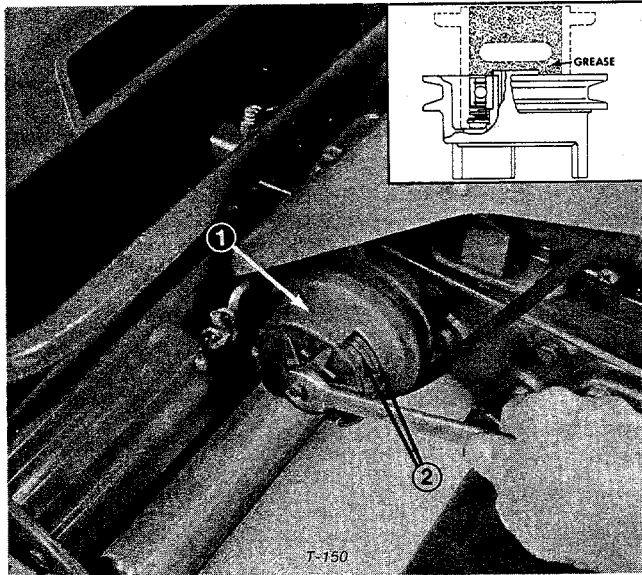

Figure 36
5. At the end of each seasons cutting, remove the traction clutch assembly and clean and repack the cam and roller assembly with No. 5 multi-purpose bearing grease (Fig. 36). Take extreme care to make sure that grease is kept off the clutch friction discs (Fig. 36).